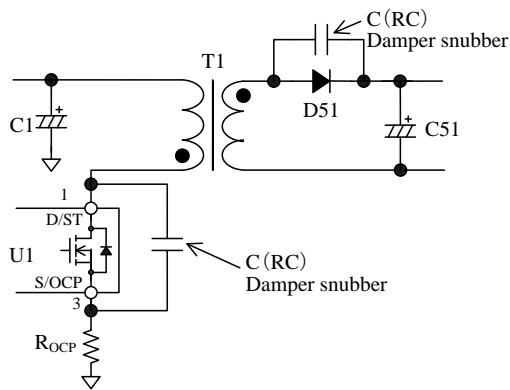

Figure 9-14 Damper snubber
In addition, if a C (RC) damper snubber of Figure 9-14 is used, reduce the capacitor value of damper snubber.